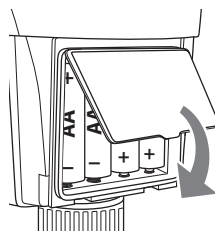

Fig. 3
- ♦ Place the battery compartment cover **10** back on the battery compartment. Make sure that the sealing ring is firmly seated (see Fig. 3).